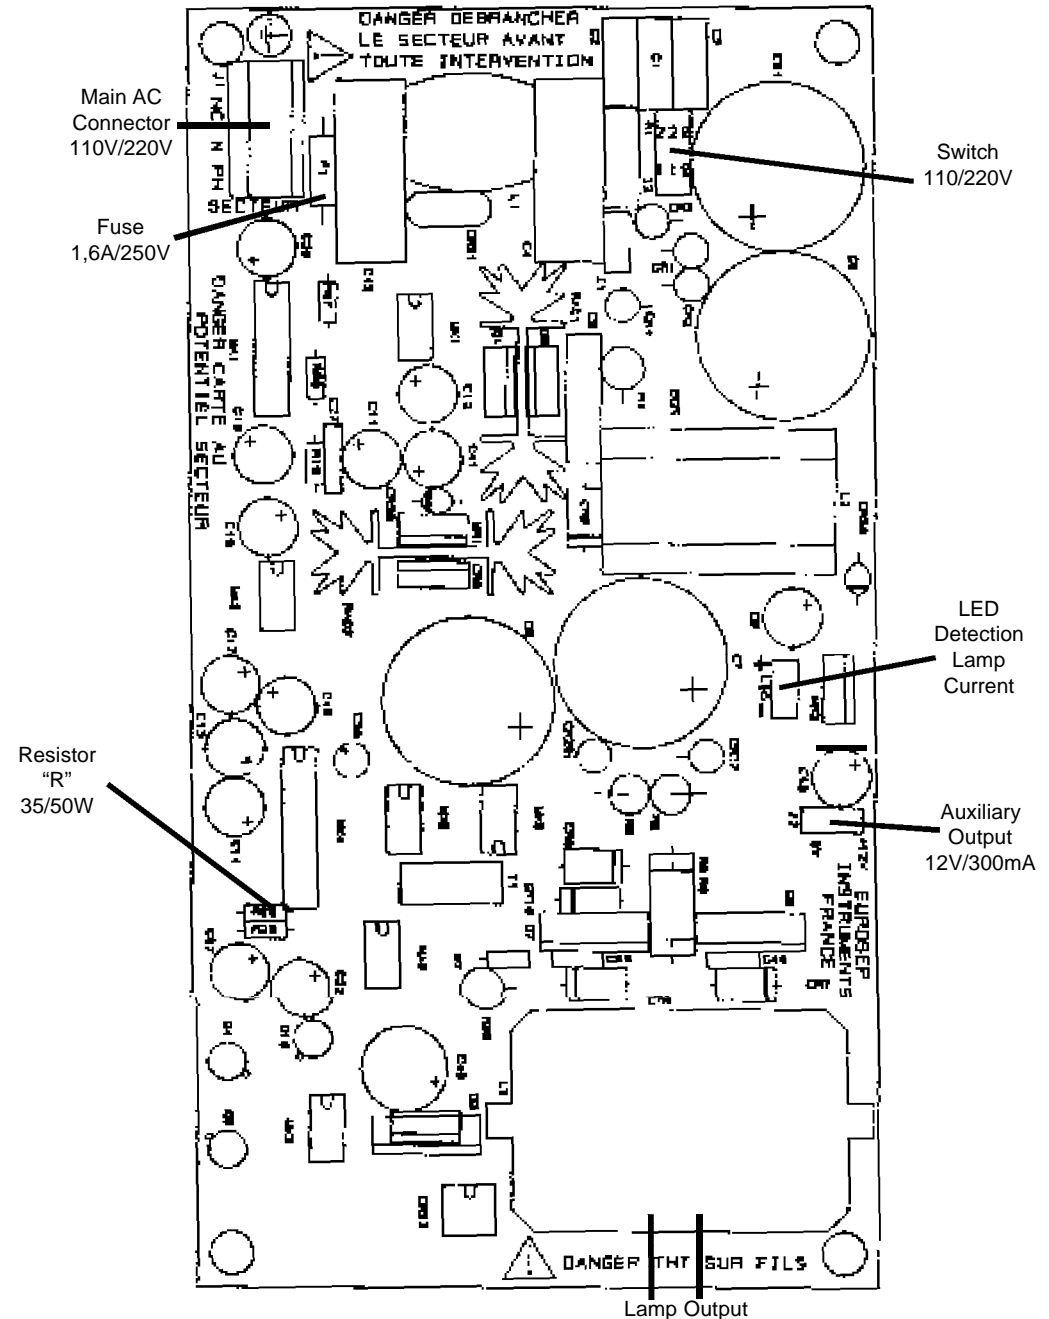

Fig. 1 : SPOT.DC35.75.D2 Power Supply Diagram
- Localise le shunt which allows the selection of the desired main AC voltage (see Fig.1),
- Localise the resistor "R" allowing to set the output voltage to the desired value (see Fig.1),
When the SPOT.DC35.50.D2 power supply is ON, this output delivers a voltage of 12V/250mA (see Fig.1). This output delivers the requested voltage for a fan or for accessories of low electrical consumption.
In order to connect the lamp, please refer to Fig.1. Cables are not polarised, D2 lamps (35 or 50 Watts) are supplied in alternating.